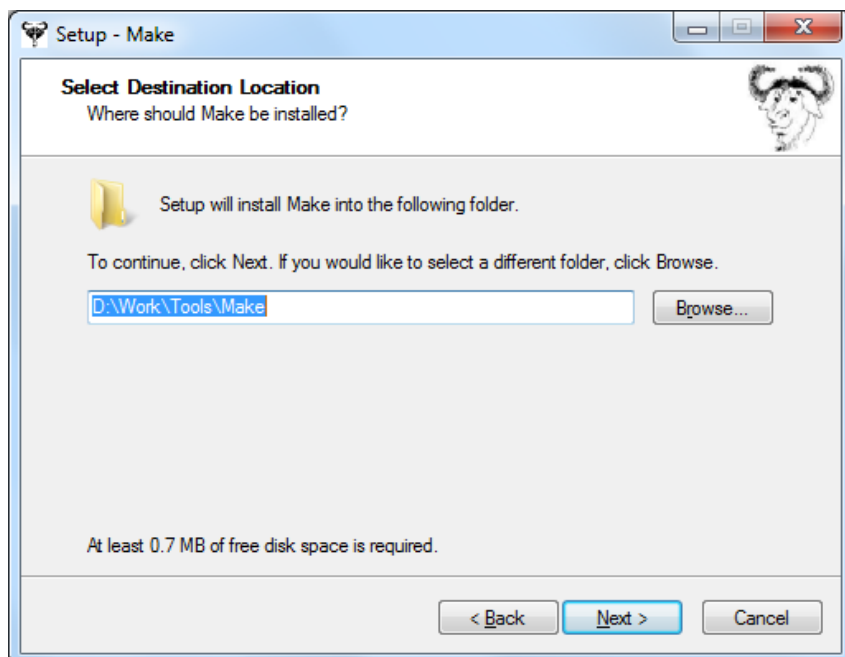

Figure 12: Installing Make utility
**D:\Work\Tools\Make** (Figure 12)